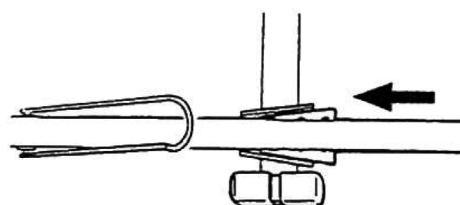

Figure 5
- Press each crossarm forward into the socket until the spring tab on the bottom of the crossarm snaps into place. (Figure 5)